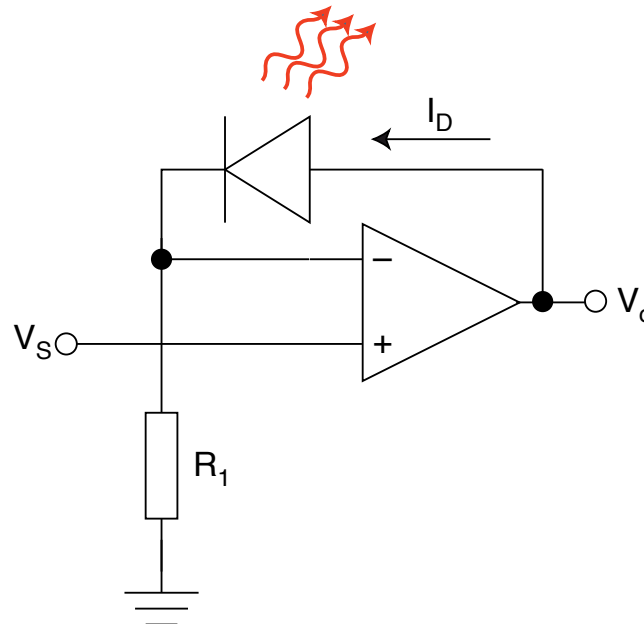

Figure 4.3.1
In a voltage-to-current converter, such as that shown in Figure 4.3.1, we set $R_1 = 470\ \Omega$. What voltage needs to be applied to the input to generate a current of 1 mA?
- Set up a SPICE simulation of the voltage-to-current converter circuit shown in Figure 4.3.1. Use the same op amp as in the previous simulation (Section 4.2.1).